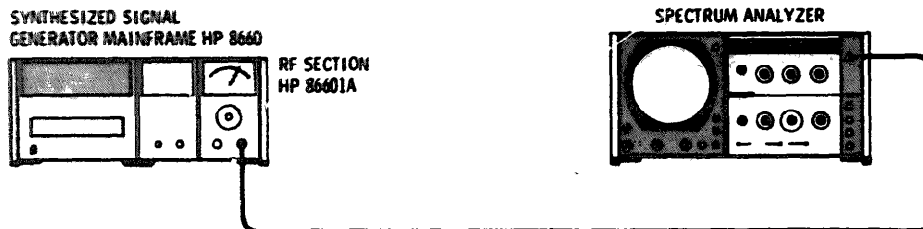

Figure 5-2. Harmonic Distortion Adjustment Setup
1. Connect the equipment as shown in Figure 5-2.
5. Adjust the AM CAL control (A9R13) for sidebands 12 dB down from the center frequency amplitude (see typical waveform in Figure 5-2).